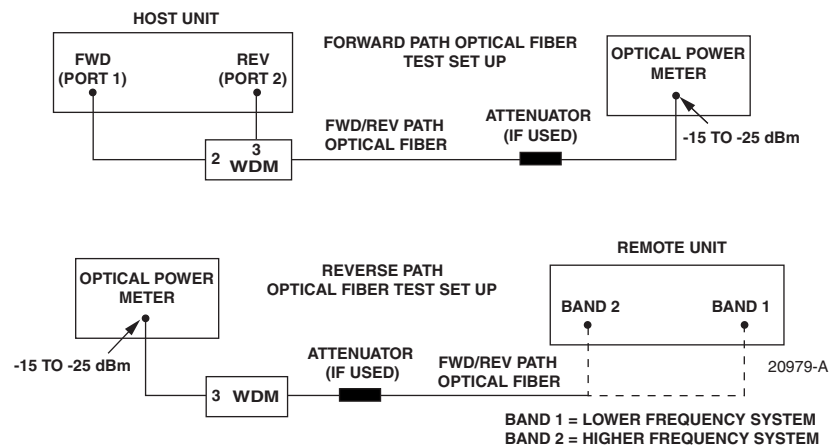

Figure 4-2. Forward and Reverse Path Optical Fiber Test Set Up
6. Connect the optical power meter to the **output** (receiver) end of the optical fiber as shown in Figure 4-2. If an attenuator was included in the fiber link, make sure it is installed.